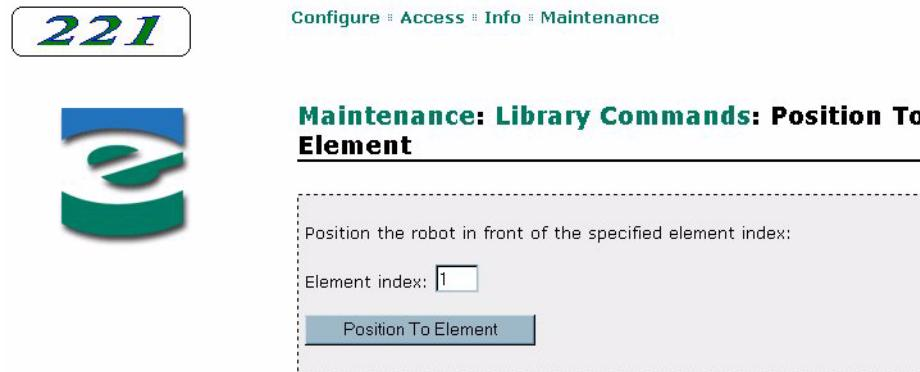

Figure 6-37 Remote management utility – Position to Element page
4. Click on Position to element. A page similar to Figure 6-37 appears.